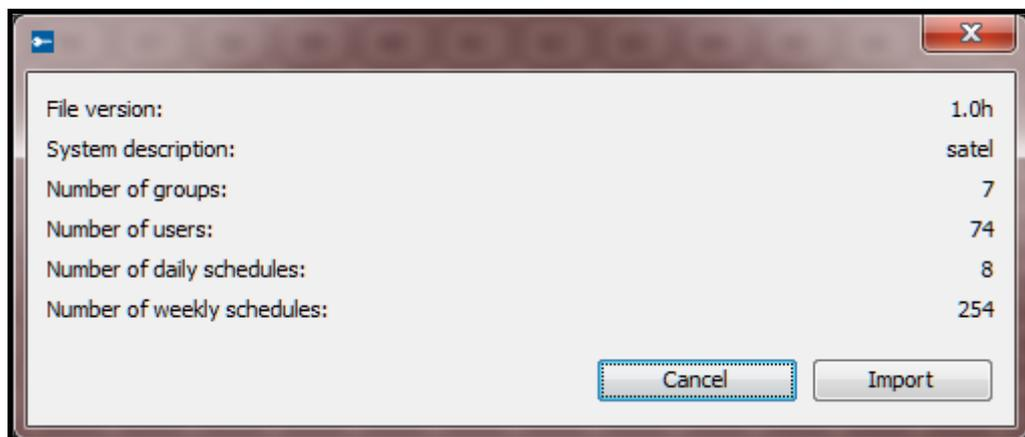

Fig. 38. Window with information on data imported from the ACCO-SOFT-LT program.
8. Window with information on imported data will open (see: Fig. 38). Click on the "Import" button to start the data import procedure. After completion of the procedure, a message will be displayed to inform you about it.
Continue – click to confirm the entered data. A window with information on the data imported from the ACCO-SOFT-LT program will open (see: Fig. 38).